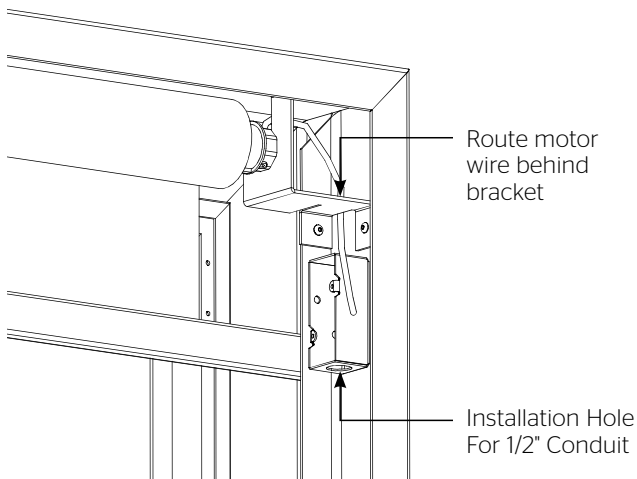

Figure 6 - Back of Frame
6. Assemble right side of frame to the top of frame. This is done exactly the same way as the left side. When assembling the unit, route the motor wire behind bracket as shown and attach field wiring box to side of frame (Figure 6 and 7).